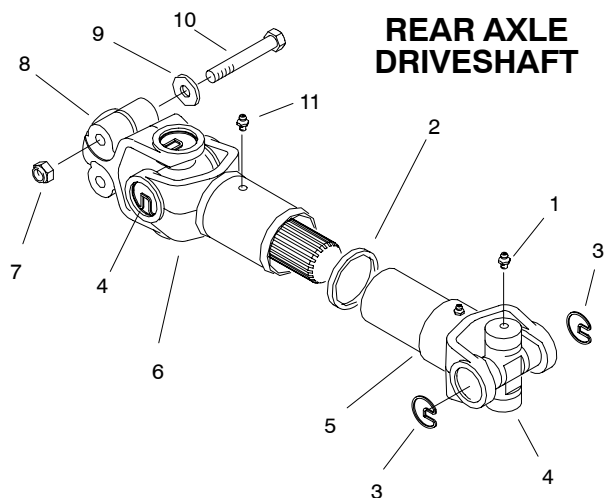

Figure 23
B. For rear axle driveshaft (Fig. 23) removal, see Stub Axle and Driveshaft Removal in this section.